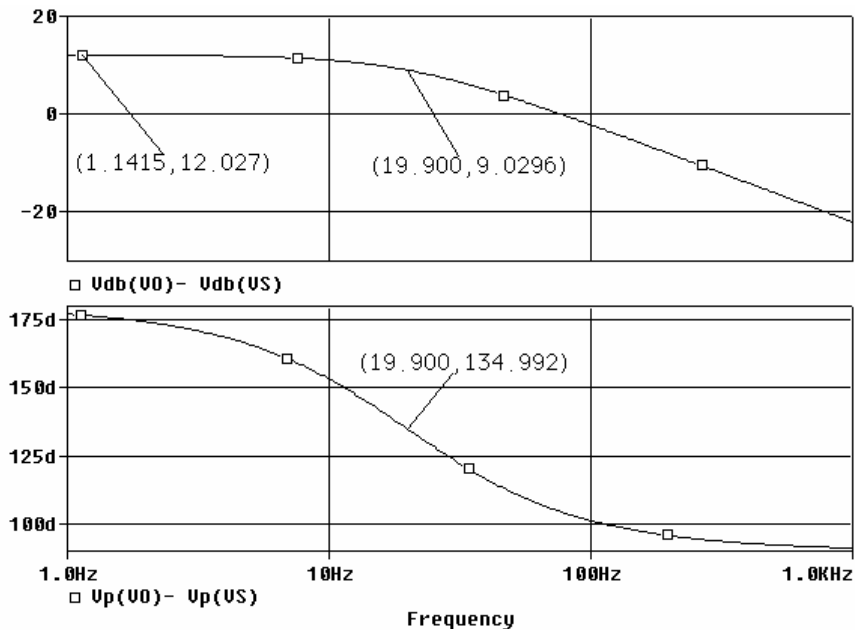

Figure 6 The Gain and Phase Bode plots.
Select the bottom plot by left-clicking the mouse on the bottom plot. Select **Trace / Add Trace** to pop up the “Add Traces” dialog box. Select first V(VO) and then V(VS) from the list of "Simulation Output Variables". The “Trace Expression”, near the bottom of the dialog box, will be “V(VO)V(VS)”. Edit the trace expression to be “Vp(VO)-Vp(VS)”. Vp(VO)-Vp(VS) is the phase shift in degrees. Left-click “OK” to close the “Add Traces” dialog box. The Bode plots are shown in Figure 6.
This label indicates that at a frequency of 1.1415 Hertz the gain is 12.027 dB. The gain will be 3 dB lower at the corner frequency. Activate the cursor and use it to locate and label the point on the gain Bode plot where the gain is 9.027 dB. (The gain changes from one value to another in small increments as the cursor moves along the trace. Figure 6 shows that the gain is 9.0296 dB, the available value closest to 9.027 dB, at a frequency of 19.900 Hertz.)
Select the bottom plot, the phase Bode plot, by left-clicking on it. Activate the cursor and use it to locate and label the point on the phase Bode plot where the angle is 135°. The point on the phase Bode plot is labeled as (19.900, 134.992). This label indicates that at a frequency of 19.900 Hertz the phase shift is 134.992°. The labeled plot is shown in Figure 6.